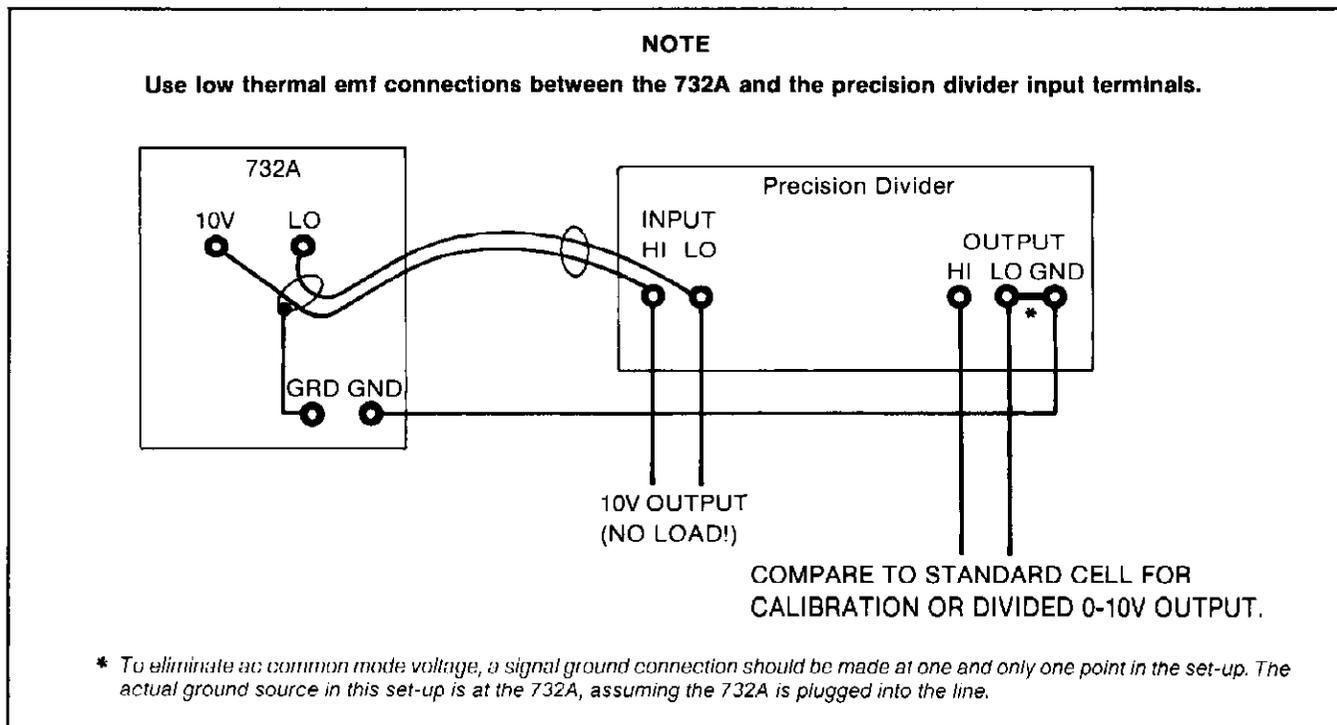

Figure 2-5. 732A/Precision Divider, Providing a Stable Adjustable Source
1. Connect the equipment as shown in Figure 2-5.